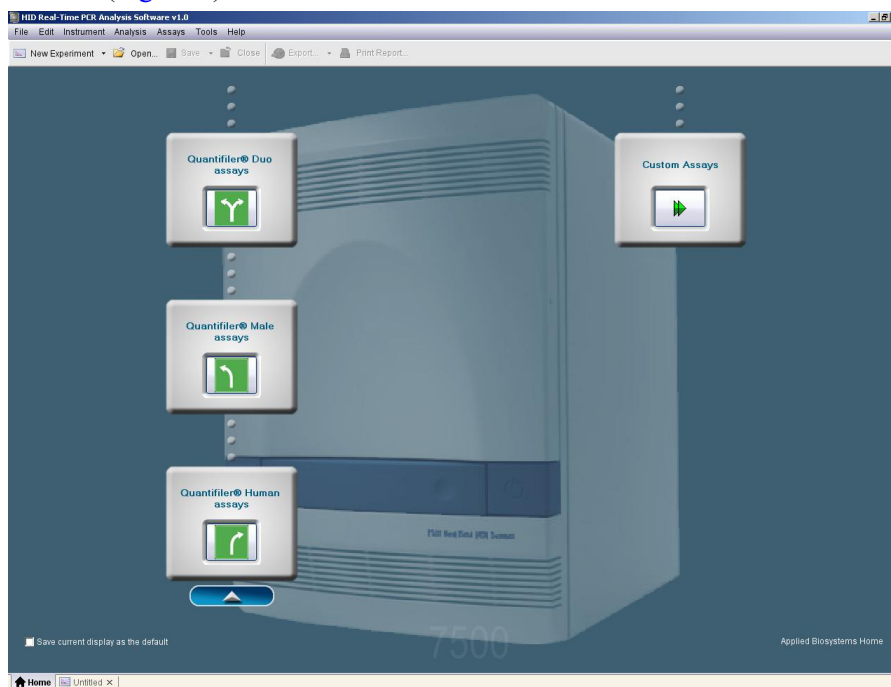

Figure 2 HID Real-Time PCR Analysis Software v1.0 Home Screen
- If the drop-down list of HID experiments is not visible on the Home screen (Figure 1), click the down arrow below the Quantifiler® Duo button to open the list (Figure 2).